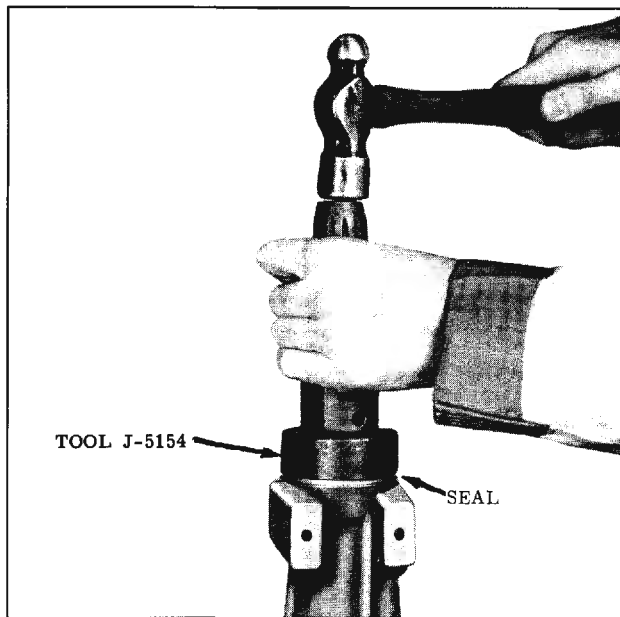

Fig. 11-26 Installing Rear Bearing Retainer Oil Seal
3. Install the seal into the rear bearing retainer using Seal Installing Tool J-5154. (Fig. 11-26)